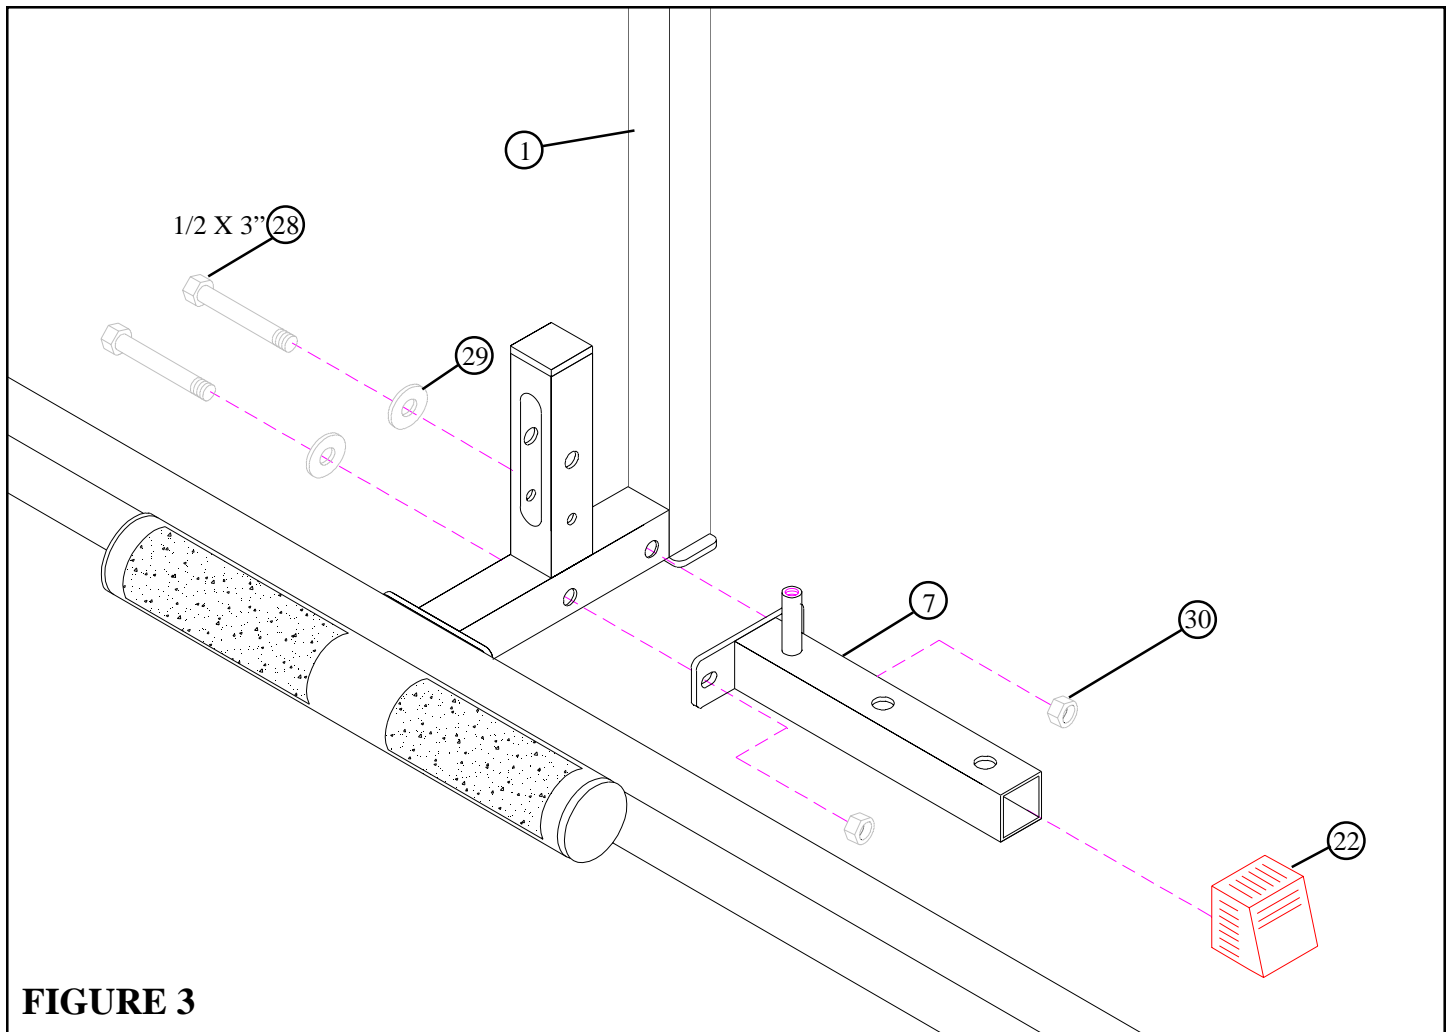

**FIGURE 2**
- Insert two 2" SQ ENDCAPS (36) into the ends of the UPRIGHT (1) as shown in FIGURE 2.
- **SECURELY** assemble the LOW ROW ATTACHMENT (5) and the UPRIGHT (1) to the POWER RACK using two 3/8 X 3-1/4" BOLTS (27), four 3/8" WASHERS (31), and two 3/8" LOCK NUTS (32). See FIGURE 2.